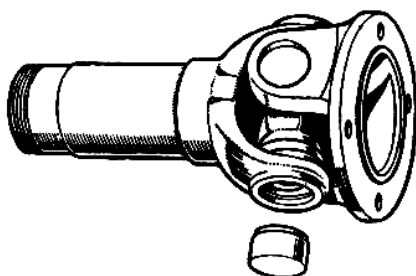

Fig. D-3—Removing a yoke bearing. Stage 2.
5. Turn the joint over and withdraw the bearing. (Fig. D-3.)